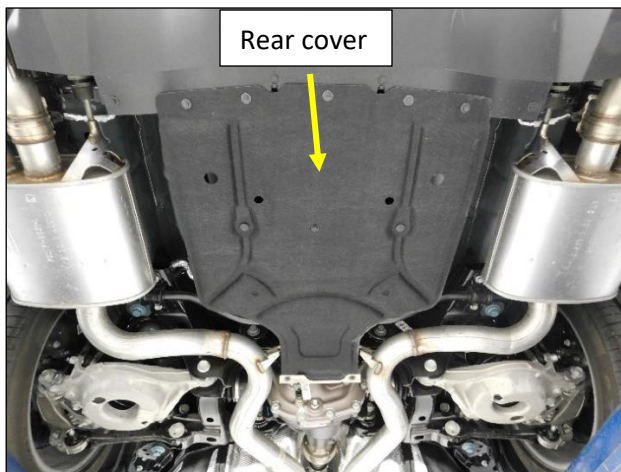

Figure 1
2. Remove the rear cover and mounting bracket as shown in **Fig. 1 & 2.**